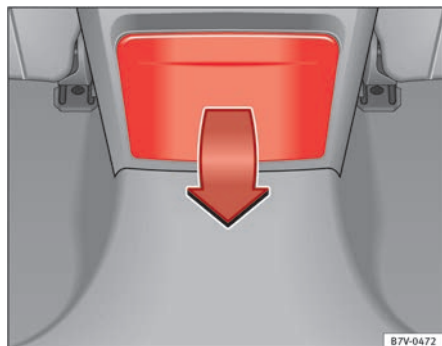

Fig. 116 Centre console, rear section: folding out the cup holder.
- To *open*, move the cup holder downwards in the direction of the arrow ⇒ fig. 116.